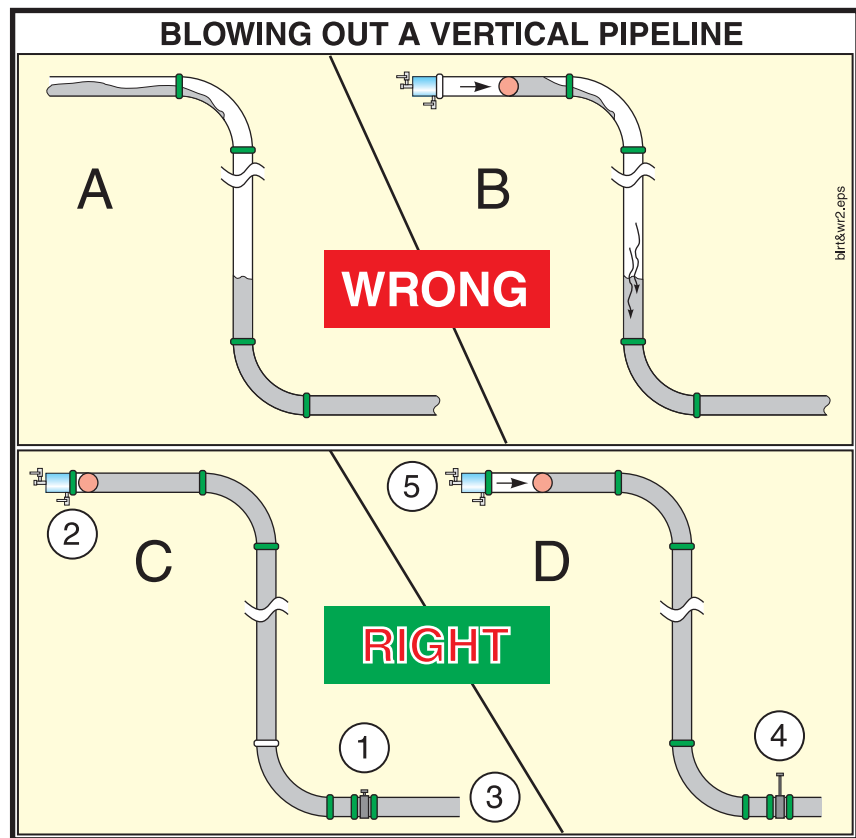

Figure 34
1. (See diagram A in Figure 34.) Without a shutoff valve installed, the pipeline is disconnected from the pump. Immediately, the concrete drains out of the vertical sections of pipe, leaving concrete in both horizontal sections, and air trapped in between.
2. (See diagram B in Figure 34.) The ball is inserted, and pushed with compressed air. This also compresses the air that is trapped in the vertical sections of pipe. The trapped air will be violently expelled when it reaches the end of the pipe, but the pipe will not yet be empty.
4. **When pumping is complete, close the shutoff valve before disconnecting the pipeline from the pump** (Item 1, Figure 34). Failure to do this will cause the concrete to fall out of the vertical sections of pipe, leaving concrete in the horizontal sections of pipe and an air pocket in the vertical sections. This does not apply if you are using a switching (diversion) valve.
5. Install the ball(s) in the pipeline, secure the blowout head and hook up the air compressor. **Do not apply the air yet!** (Item 2, Figure 34.)
7. **Position the ready mix truck at the cleanout standpipe,** or install the ball catcher or other containment device at the end of the discharge line. (Item 3, Figure 34.)
9. **Divert the vertical pipe line to the cleanout area and secure the discharge (Figure 35), or open the shutoff valve in the delivery pipe line now.** Allow gravity to start the concrete moving through the discharge line. As the concrete falls from the vertical sections, it will take the ball with it, making it impossible to trap air in the line. (Item 4, Figure 34.)
10. **Apply the compressed air to the pipeline.** Close communications must be maintained at this time. Add only enough air to keep the concrete moving. Do not allow the concrete to accelerate. (Item 5, Figure 34.)